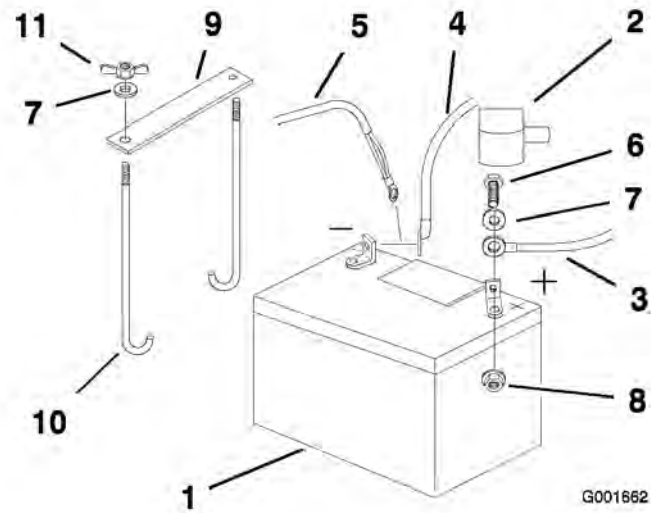

Figure 40
4. First disconnect the negative battery cable and ground wire from the negative (-) battery terminal (Figure 40).
5. Slide the red terminal boot off the positive (red) battery terminal. Then remove the positive (red) battery cable (Figure 40).
6. Remove both wing nuts (1/4 inch) securing the battery clamp (Figure 40).
1. Position battery in the tray with the terminal posts toward the engine(Figure 40).
4. Secure the cables with 2 bolts (1/4 x 3/4 inch), 2 washers (1/4 inch), and 2 locknuts (1/4 inch) (Figure 40).
6. Secure battery with J-bolts, hold down clamp and 2 washers (1/4 inch), and 2 wing nuts (1/4 inch) (Figure 40).